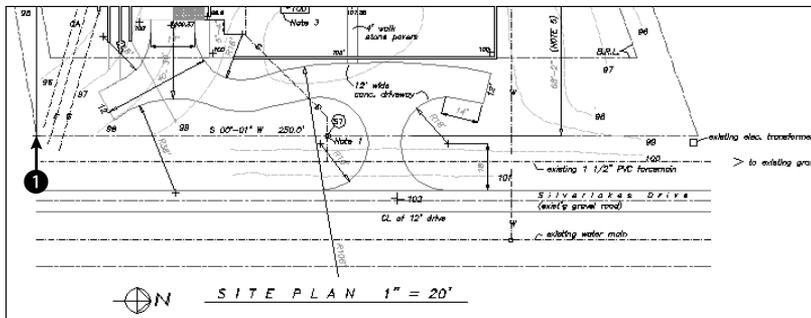

Figure 16-35: The completed multiline.
3. At the Specify start point or [Justification/Scale/Style]: prompt, choose the **From object snap**. At the Base point: prompt, choose **1** in Figure 16-35. (If necessary, press Tab until you get the Intersection object snap.) At the <Offset>: prompt, type **@0,-10'** ↵.
4. At the Specify next point: prompt, move the cursor to the right and type **255'** ↵. If you want, you can experiment by drawing other line segments. Press Enter to end the command. The drawing should look like Figure 16-35.